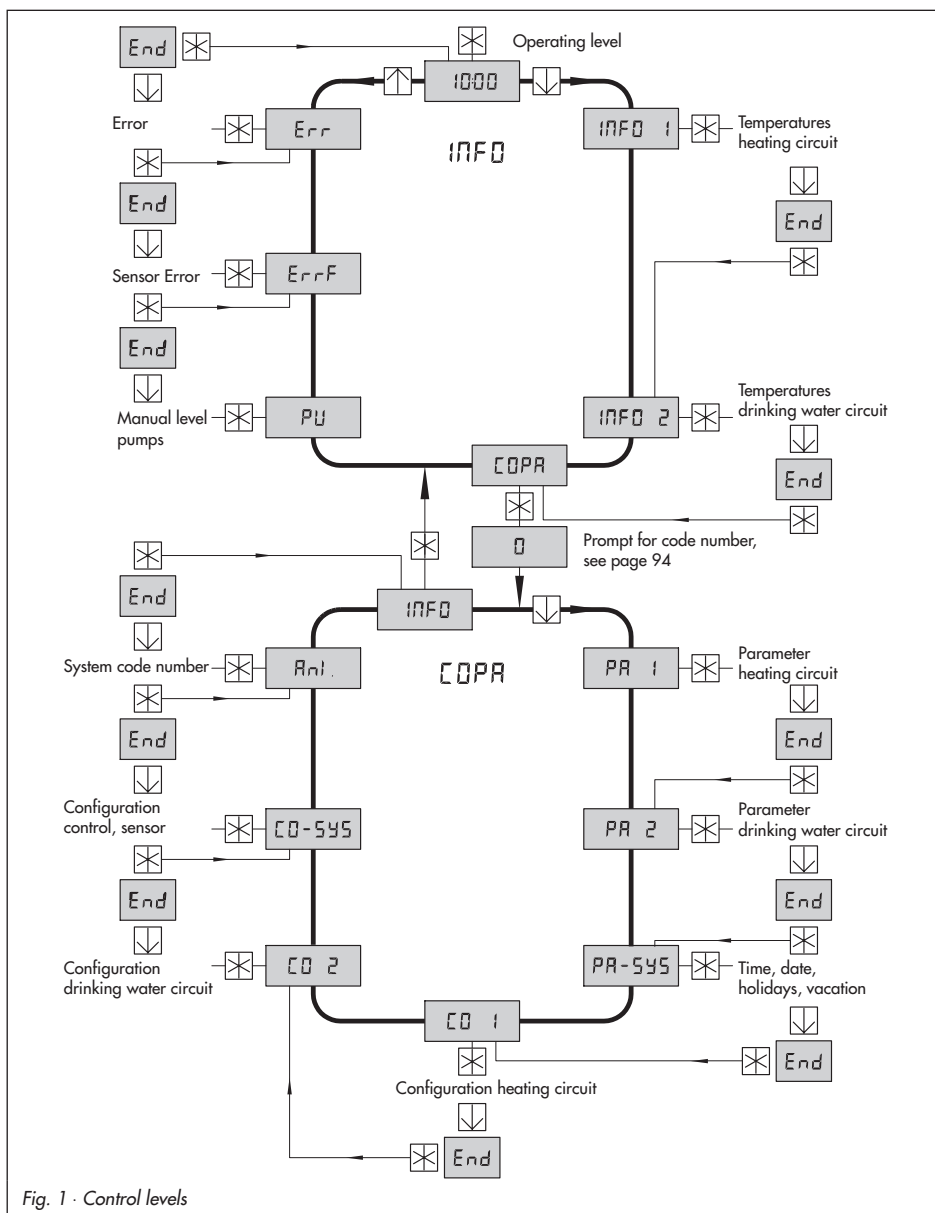

Fig. 1 - Control levels
Fig. 1 shows the level structure of the TROVIS 5431 Heating Controller. In addition, you can see which steps to follow in order to access the individual levels. These levels can only be accessed when the control switch (A) is set to . The controller has two main levels, the INFO level and the COPA level. The INFO level comprises the operating level and the information levels. In the manual operating mode, you can also access a pump level and, in case of faults, the error level.
The heating controller's default setting is the operating level, indicated in Fig. 1 by the time "10:00". In addition, the display indicates the operating mode and the operating status with symbols. For an overview of the the most important symbols, refer to page 99.